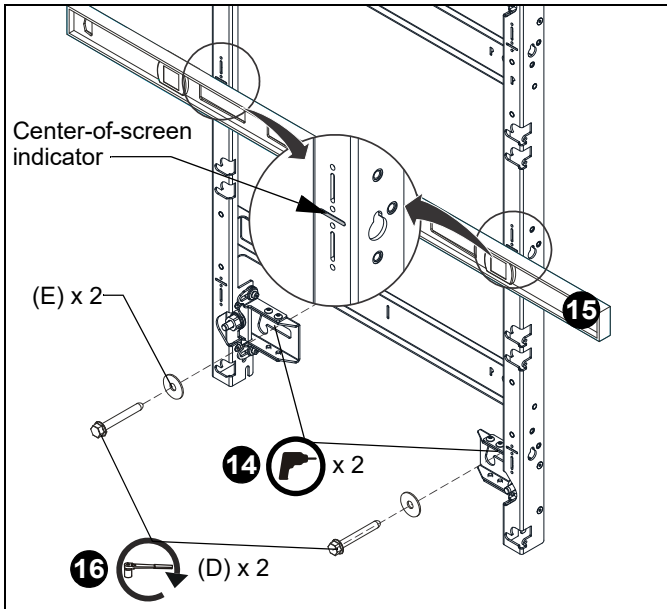

Figure 10
14. Drill pilot holes in centerline of lower slots (see Table 1 for size) and follow fastener information (appropriate for wall type) located in Table 1. (See Figure 10)
15. Double check the level of the mount at the center-of-screen indicators. (See Figure 10)
16. Fully tighten the 5/16 x 2-1/2" lag screws (D) through the 5/16" fender washers (E). (See Figure 10)